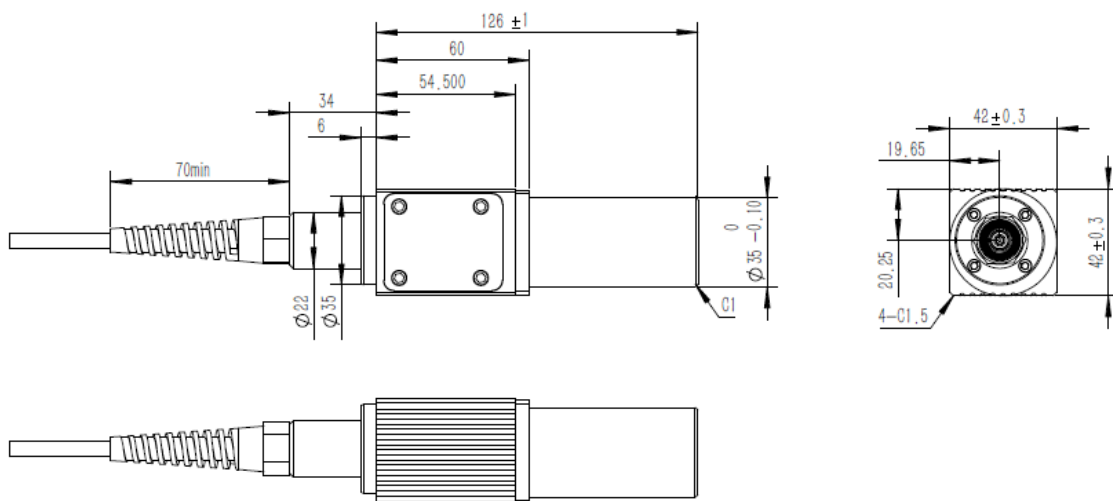

Figure 2. Dimension drawing of output isolator (Unit: mm).
b) Isolated output head dimensions (As shown in Fig. 2).